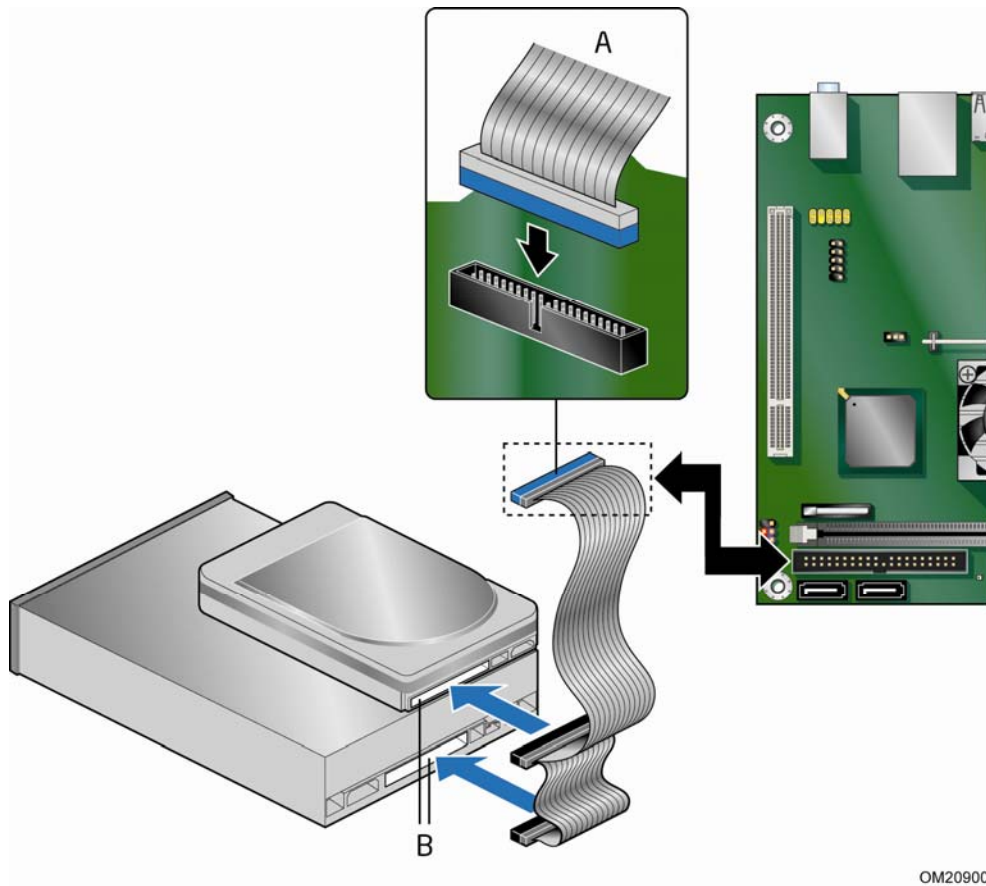

Figure 9. Connecting the IDE Cable
The IDE cable can connect two drives to the Desktop Board. The cable supports the ATA-100 transfer protocol. Figure 9 shows the correct installation of the cable.
2. Attach the cable end with the single connector (blue) to the Intel Desktop Board (Figure 9).